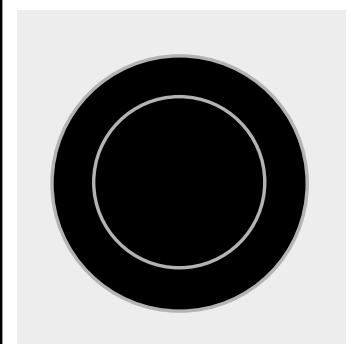

Fig. 2
2. Push in and turn the surface control knob clockwise to begin heating both the inner and outer portions of the element (marked dual - See Fig. 2). If only the inner heating portion is needed (marked single - See Fig. 1) for smaller cookware, push in and turn the knob counter-clockwise to start.